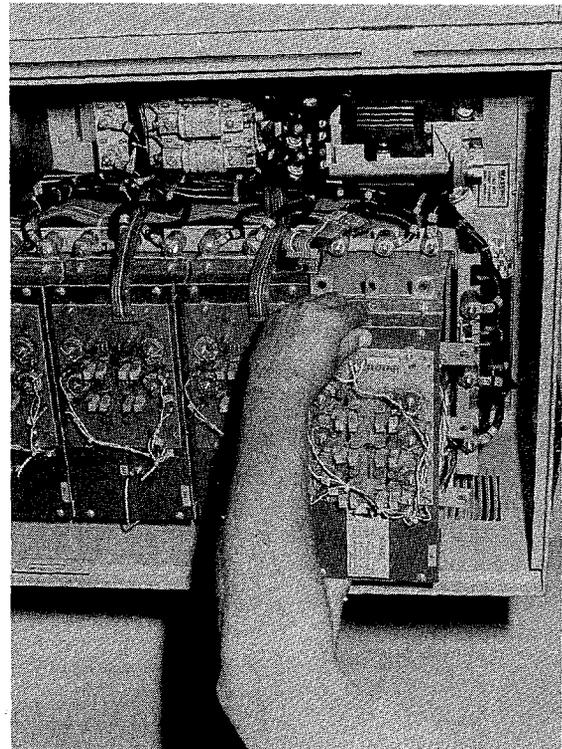

FIGURE 10
5. Remove the nine (9) nuts and washers from the power connections:
6. Carefully pull module out of the rack using the red plastic insulation cover in front of the module. (See Figure 10).